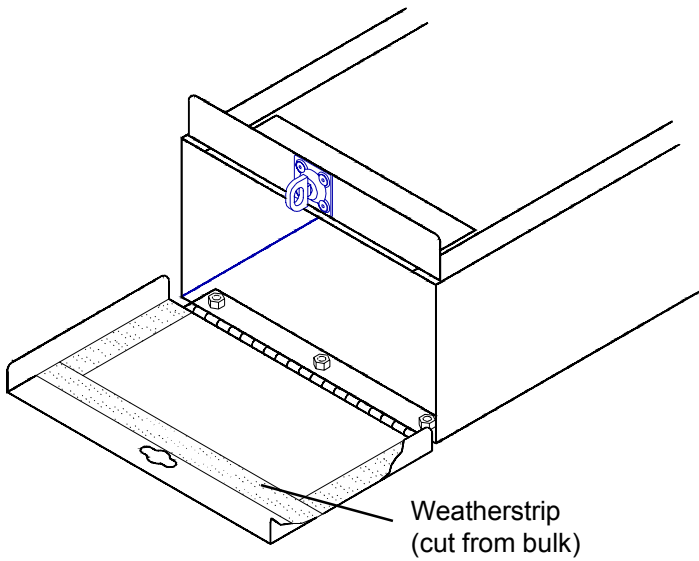

Figure 4. Door Assembly Weatherstripping
3. Open the Door, cut and adhere Weatherstripping to fit inside the Door where it touches the Rear Body Assembly (see Figure 4.). Be sure you don't cover the latch hole.